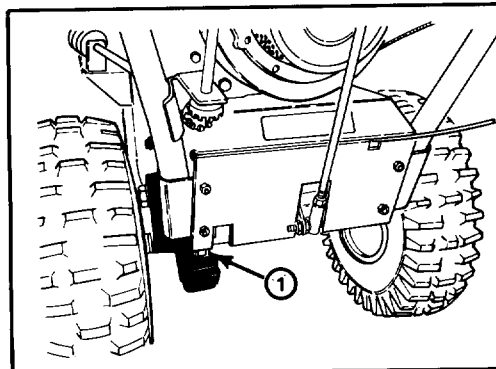

Figure 22
1. Annually, lubricate drive chain with chain lubricant (Fig. 22). Wipe up any excess oil.